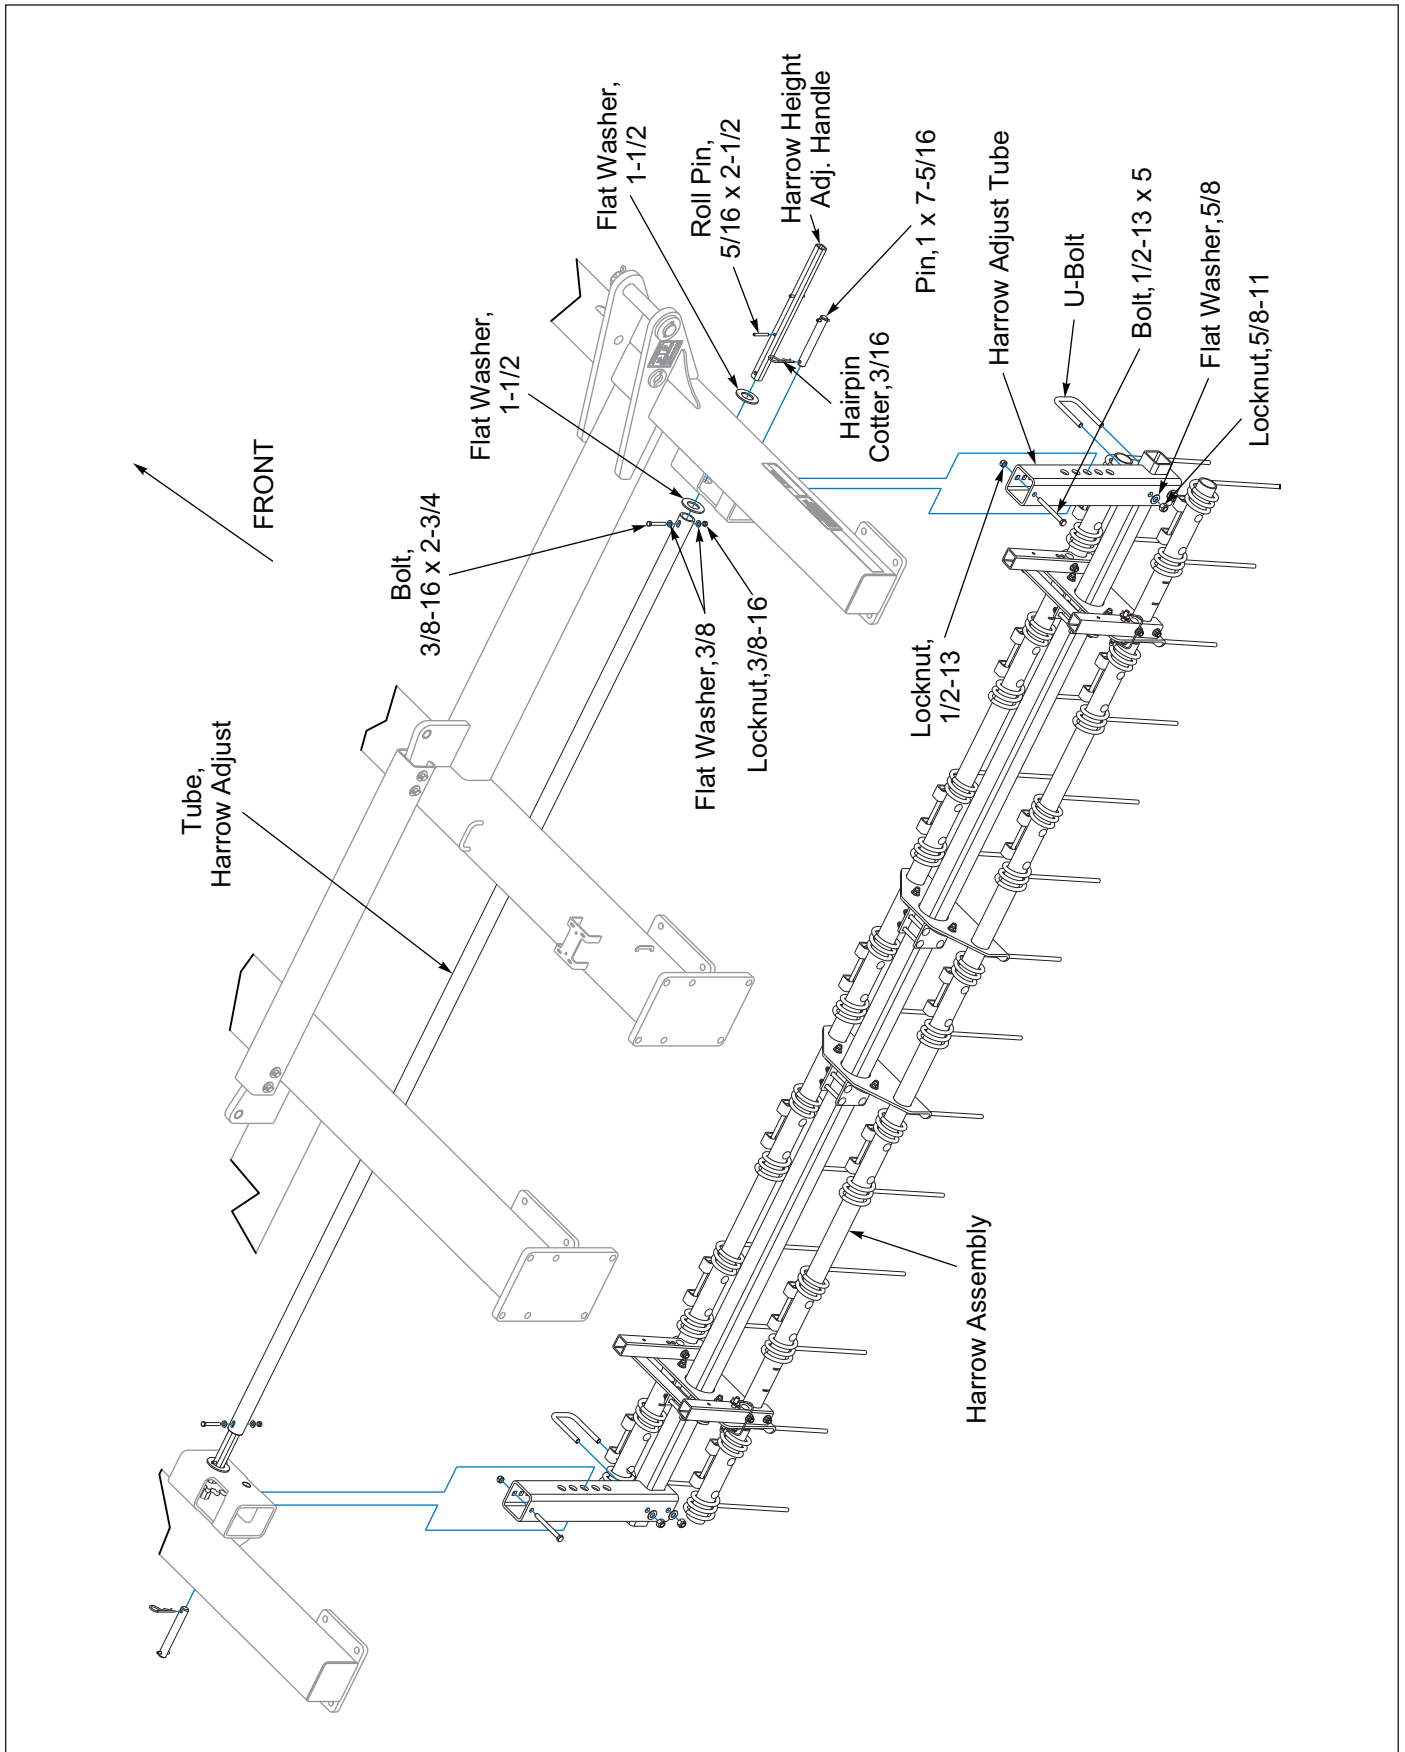

Figure 2-35: Center Frame 2-Row Harrow Installation
1. Remove 1 x 7-5/16 Pin from each Frame Adjuster Mount located on the inside of the Outer Frame Tube. Insert a Harrow Adjustment Tube into each Frame Adjuster Mount and re-insert 1 x 7-5/16 Pin in the bottom hole. Secure with 3/16 Hairpin Cotter. **See Figure 2-35.**
2. The 2-Bar Harrow comes factory assembled. Lift Harrow Assembly and slide the Harrow 3 x 3 Tube into the cut-out portion of the Harrow Adjustment Tube and insert a 1/2-13 U-Bolt on each side. **See Figures 2-35 and 2-36.** Check Harrow position in relation to the Frame and secure with Flat Washer and Locknut.